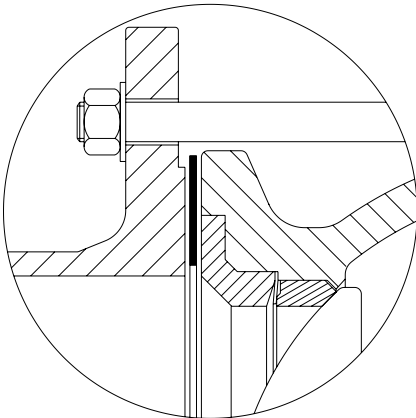

Fig.5-2 Gasket
- Ensure that the valve and the gaskets are correctly centred and gaskets of the correct quality are used. The sealing function of the valve depends on the gasket on the inlet side, which transmits the pressure from the connecting flange to the cover plate (→ Fig.5-2)